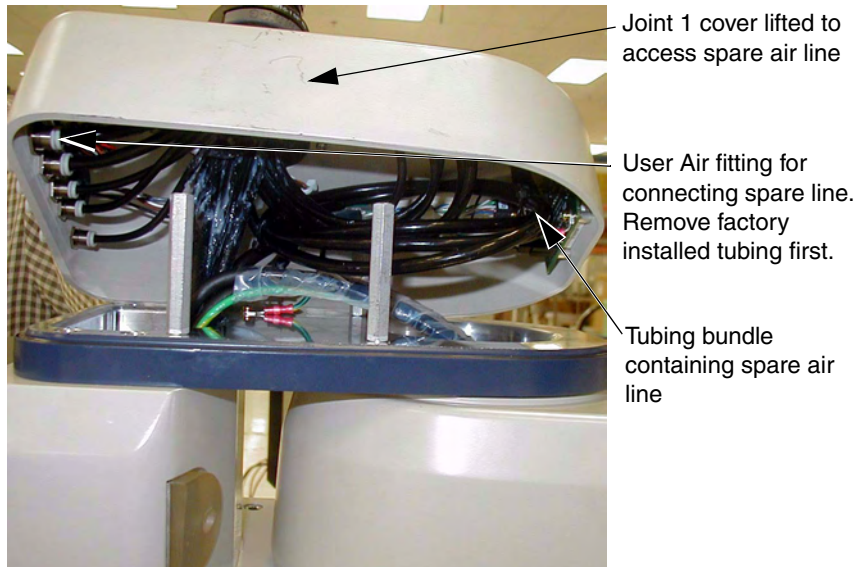

Figure 7-6. Connecting Spare Air Line to User Connector
10. Remove the four screws for the Joint 1 cover and lift the cover up so you have access to the tubing under the cover. See Figure 7-6.
11. Disconnect the tubing from the 6mm User Air fitting shown in Figure 7-6. Fold the tubing out of the way and restrain using tie-wraps.